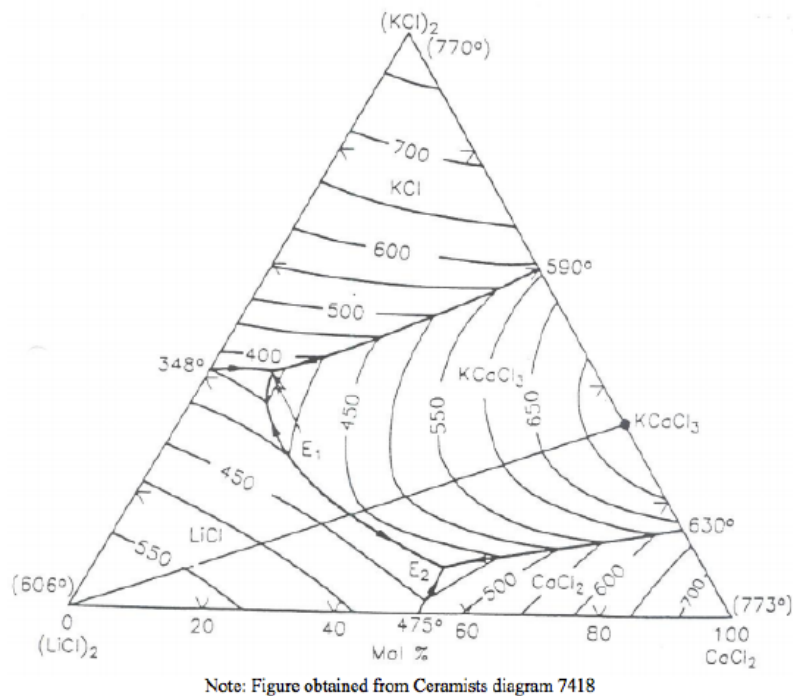

Figure 3.8: $(\text{LiCl})_2 - \text{CaCl}_2 - (\text{KCl})_2$ phase diagram.
10) On the $(\text{LiCl})_2 - \text{CaCl}_2 - (\text{KCl})_2$ phase diagram shown in Figure 3.8, draw isothermal sections at the following temperatures: (note- Ternary eutectic E_1 is at 332°C and ternary eutectic E_2 is at 412°C)